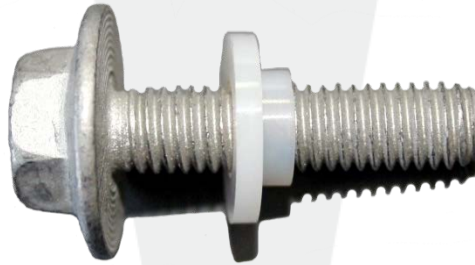

Figure 9
3. Slide 1 shoulder washer (1038838-00-A) onto 1 bolt (2007206) (Figure 9).